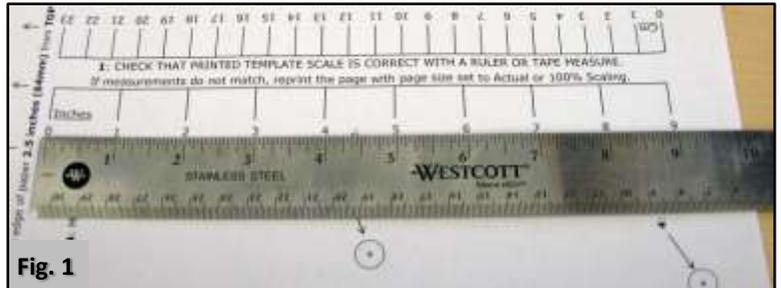

Fig. 1
2. Using a Ruler or Tape Measure, verify that the Inches or Cm side of the column down the center of the Drilling Template is the correct size. (Fig. 1)